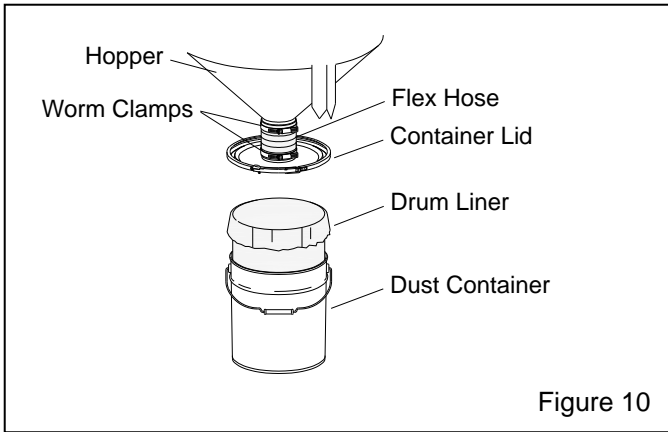

Figure 10
2.11.1 Refer to Figure 10 and set the drum liner into the dust container. Drape the liner over the top edge of the container. Place the lid onto the container and latch the lock ring, making sure the lid and clamp are secure.